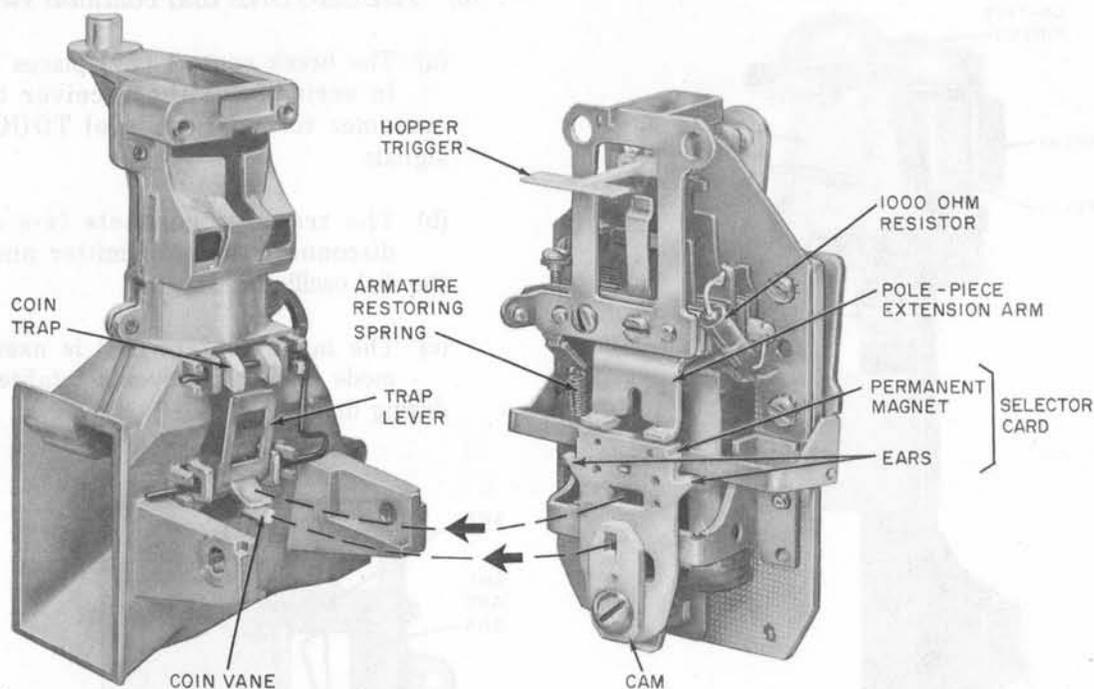

Fig. 8—1AA Coin Relay
**Coin Relay and Hopper Assembly (Fig. 8)**